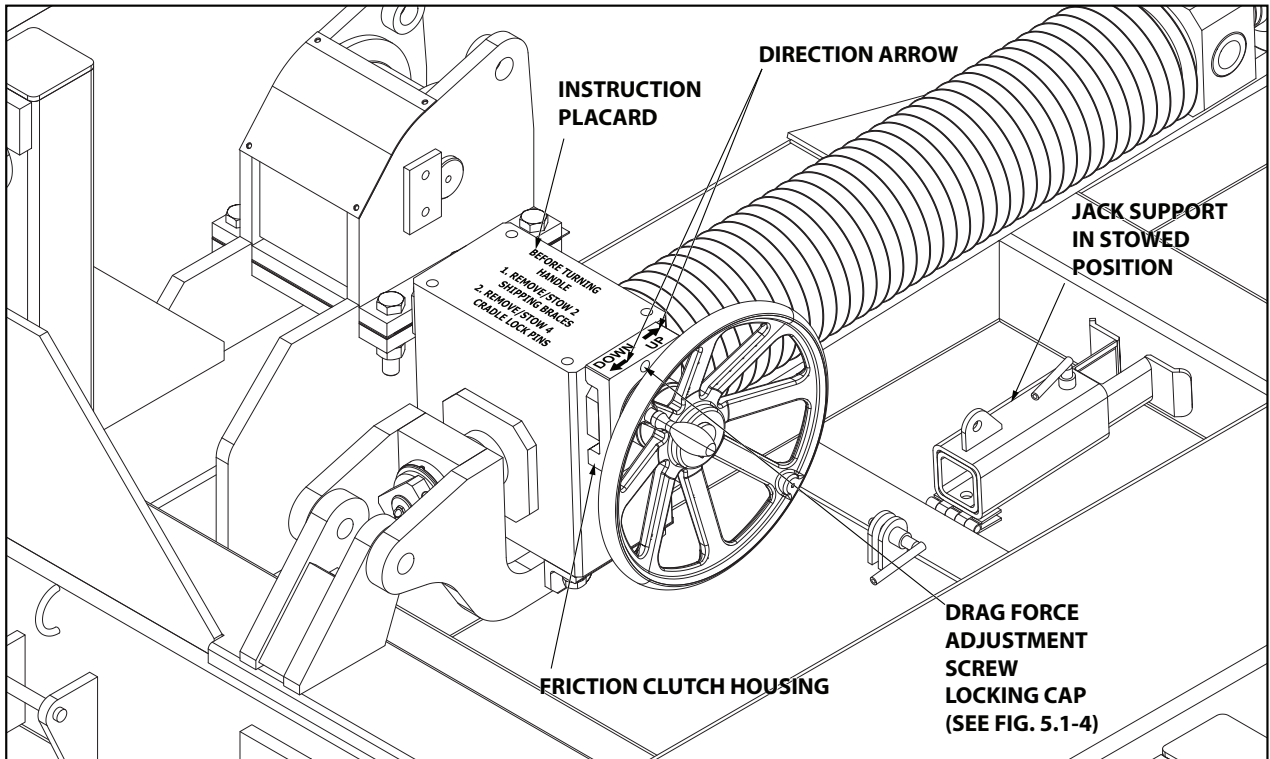

Figure 5.1-1
FOLLOW INSTRUCTION PLACARD ON TOP OF GEAR BOX. (Cradle MUST NOT BE ROTATED with AFT bootstrap support attached). (Figure 5.1-1).
- 1) Verify that the screw jack support is in its stow position (Figure 5.1-1)
- 7) Turn gearbox hand wheel CCW to rotate and lower cradle CCW, turn hand wheel CW to rotate and raise cradle CW. (Figure 5.1-1).